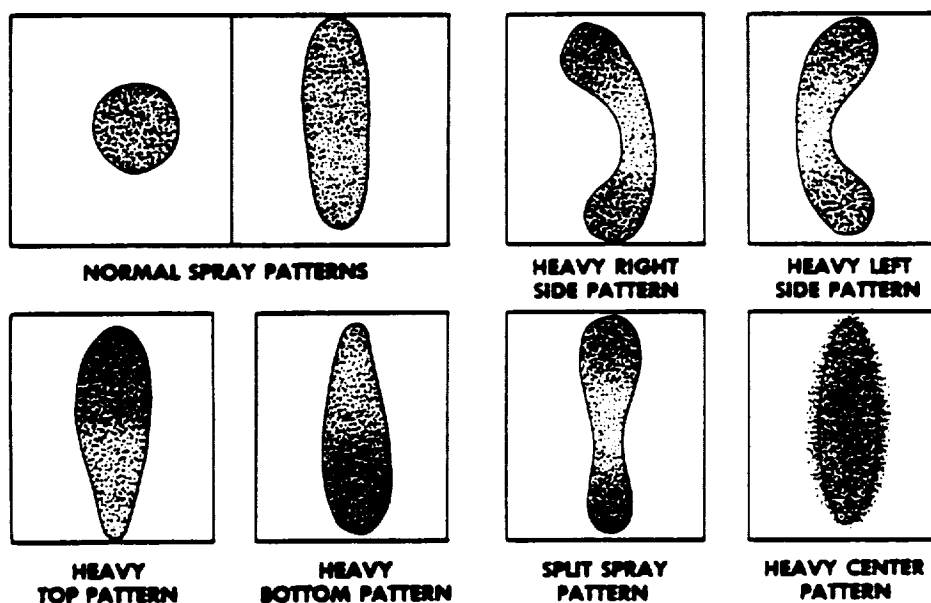

Figure 5-8. Defective Spray Patterns
- (4) Heavy left side pattern is due to:
- (5) Heavy center pattern is due to:
- (6) Split spray pattern is due to an imbalance in the air and fluid pressure.
- (7) To remedy the conditions described in (1) through (4) above, determine if the obstruction is on the air cap or the fluid tip. Rotate the cap one-half turn and spray a test pattern. If the defect is inverted, the obstruction is on the air cap; if it is not inverted, the obstruction is on the fluid tip. Clean the air cap as instructed in paragraph 5-6. See figure 5-8 for examples of the conditions described in (1) through (4) above.
- (8) To remedy the conditions in (5) and (6) above, readjust the atomizing pressure, fluid pressure, and spray width adjustment until the desired spray is obtained. See figure 5-8 for examples of the conditions described in (5) and (6) above.